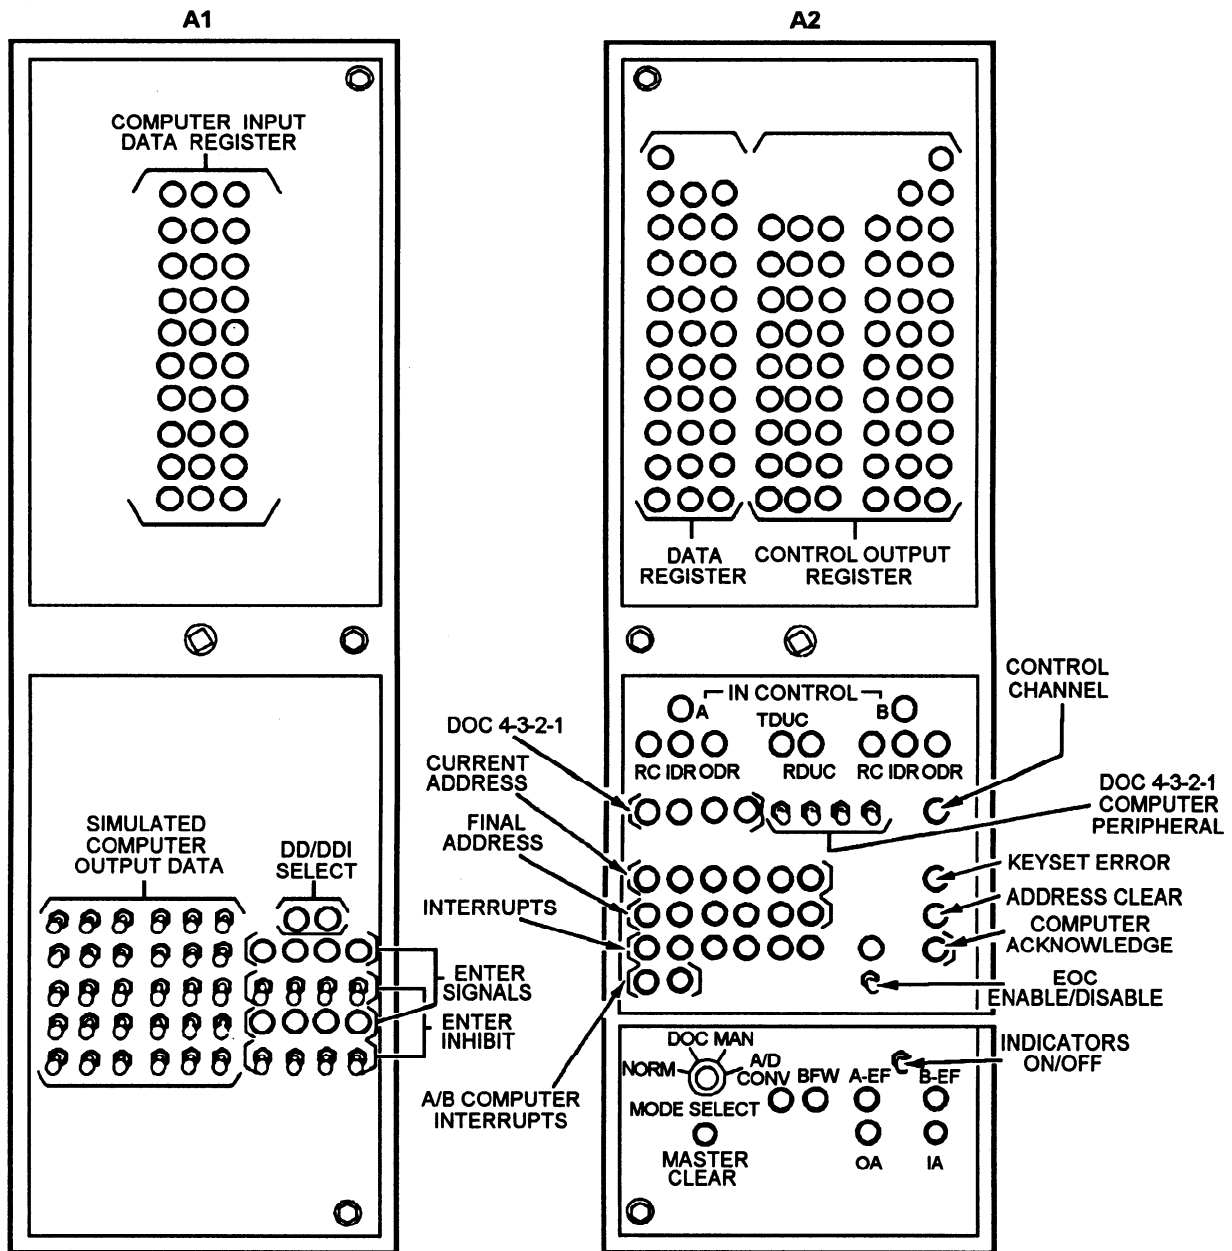

Figure 13-12.—KCMX front panels (A1/A2).
The front panels of the KCMX (figs. 13-12 and 13-13) contain all the controls and indicators used by operating personnel. The chassis behind the front panels (A1, A2, A3, and A4) and the power supply chassis in the bottom unit (PS1) can be unlatched and run out like drawers for access to the logic board racks inside. Signals can be observed at the appropriate test points, which are given in the equipment prints. Power supply fuses appear on panel AS (power control assembly); test points for the power supply can be found by extending chassis PS1 outward.
The upper half of the A1 panel (figure 13-12) contains the 30-bit COMPUTER INPUT DATA REGISTER. The 30 pushbutton/indicators show the contents of the computer input data register when the KCMX MODE SELECT switch (bottom of A2 panel) is in the NORM position. The pushbuttons can be used to simulate data from the KCMX to the computer when the MODE SELECT switch is not in the NORM position.
The lower half of the A1 panel (figure 13-12) contains the SIMULATED COMPUTER OUTPUT DATA switches and the DD/DDI SELECT switches and indicators.
The upper half of the A2 panel (figure 13-12) contains the DATA REGISTER and the CONTROL OUTPUT REGISTER. The data register pushbutton/indicators are lighted to indicate the presence of data for DOC equipments. The pushbuttons may be used to enter data bits into the register for offline operations. The control output register indicates the status of the external control signals. A lighted indicator means a control signal is being generated. The pushbuttons may be used to set individual control signals during offline operations.
**DUPLEX CONTROLS.**— The duplex controls (figure 13-12) are identical for both A and B computers; therefore, only the A controls/indicators are discussed.
**KCMX MODE CONTROLS/INDICATORS.**— The TDUC and RDUC pushbutton/indicators (figure 13-12) are lighted when the KCMX is in the associated mode. The pushbuttons may be used to simulate reception of the computer external function codes for that mode.
The six pushbutton/indicators labeled CURRENT ADDRESS (figure 13-12) display the octal KCMX address being interrogated by the TDUC mode. The pushbuttons may also be used to allow manual selection of a single address, or starting address of a set of addresses to be interrogated in a test mode. The FINAL ADDRESS pushbutton/indicators are used to select (test mode) or display (TDUC mode) the last KCMX address of a set of addresses being interrogated. The ADDRESS CLEAR pushbutton clears both the current and final address bit indicators.